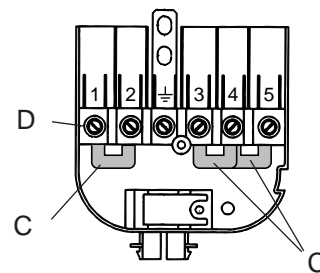
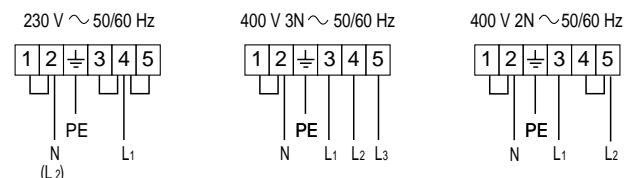

Fig. 6.10
Fig. 6.11
- ✓ Insert connecting plates "C" into terminal block "D" (Fig. 6.10) as shown in the diagram in Fig. 6.11.
- ✓ Insert correct section and type mains flex (see special chapter) through mains hitch "F" of protection "B," and connect mains and earth wires to their respective terminals in block "D," in accordance with the diagram shown in Fig. 6.11.